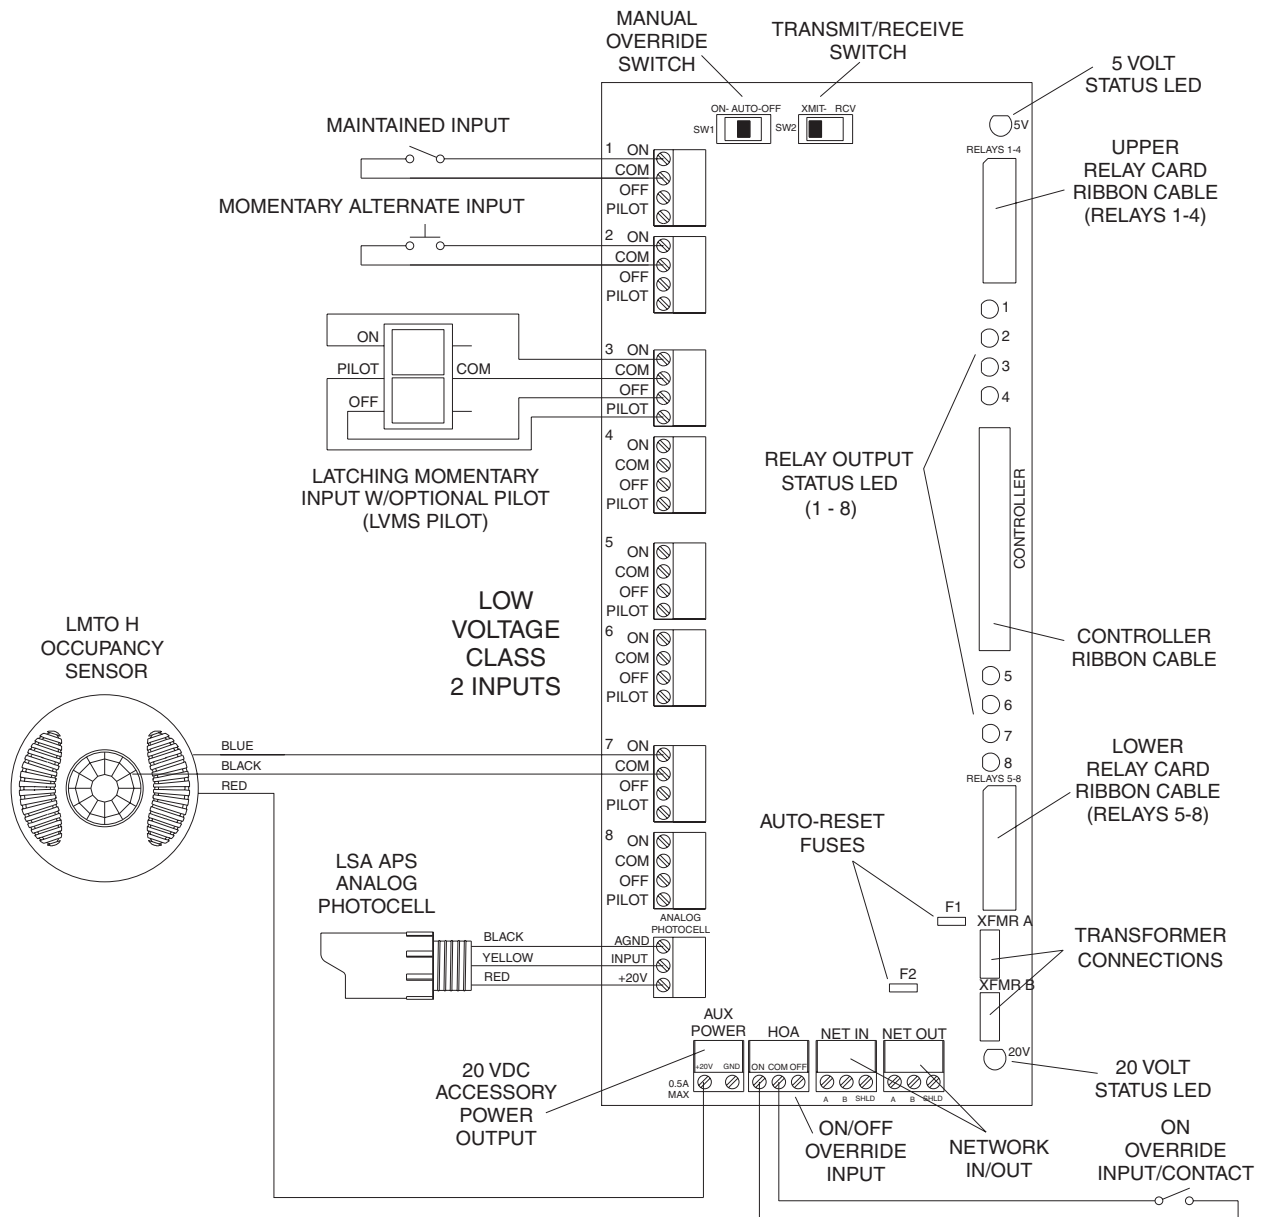

Figure 7 - Low Voltage Connections
1. If required, connect low voltage switches or other dry contact closure devices to the switch inputs. See *Figure 7* for typical connection details.
2. If required, connect an analog photocell to the analog photocell input. See *Figure 7* for typical connection details.
3. If required, connect a low voltage occupancy sensor to a switch input. See *Figure 7* for typical connection details.
4. The ON/OFF override input can be connected to a normal sense relay (RRU SPDT), or other dry contact closure devices and switches to provide override control of all relays. All relays (excluding any programmed as DISABLED) will be overridden when using this input. See *Figure 7* for typical connection details.
1. Verify the 5 volt and 20 volt GREEN (STATUS) LEDs on the power supply card are on. (See *Figure 7 for LED locations*). If both LEDs are on, proceed to STEP 2. If either LED is not on, verify the correct voltage is present on the INPUT POWER TERMINAL BLOCK. Verify the wires connecting the input transformers to the CONTROLLER CARD (purple wires) are connected properly. (See *Figure 7*) If these conditions are correct and either or both LEDs are still not on, contact Lithonia Controls Technical Support for more information. (See contact information below)
3. Verify both the UPPER and LOWER RELAY CARD RIBBON CABLES are properly connected to the POWER SUPPLY and RELAY CARD SOCKETS. (See *Figure 7*) If both are properly connected and the outputs still don't function correctly, proceed to STEP 4.
4. Switch the MANUAL OVERRIDE SWITCH on the POWER SUPPLY CARD to the "ON" position. (See *Figure 7 for switch location*) All loads which are programmed as NORMALLY OPEN (default) and the corresponding RELAY OUTPUT STATUS LEDs should turn on.
5. Switch the MANUAL OVERRIDE SWITCH on the POWER SUPPLY CARD to "AUTO". Use the RELAY BUTTON(S) on the front panel to switch individual relays ON/OFF. Observe the RELAY OUTPUT STATUS LEDs on the POWER SUPPLY CARD. The LEDs for all relays which are NOT programmed as DISABLED should indicate ON/OFF as the RELAY BUTTON(S) are being pressed. Also, an audible clicking should be heard as the relays switch.